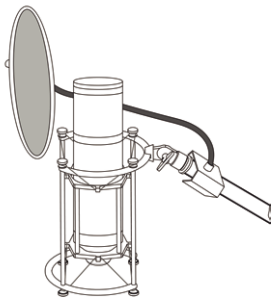

рис. 8
5. In order to extend the life of the microphone, it is recommended to use a pop screen when working with vocalists (Fig. 8).